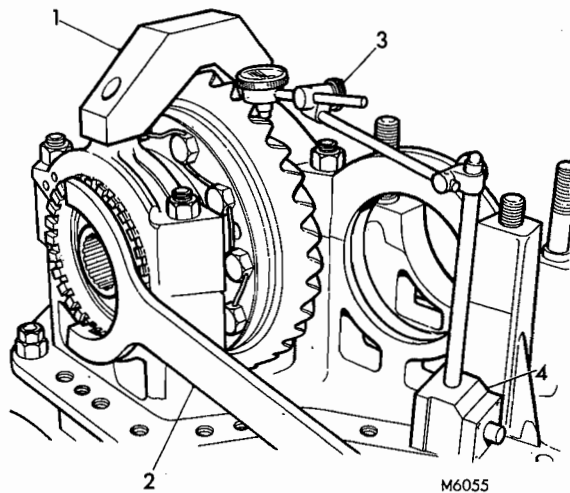

FIG. 6 CHECKING BACKLASH
10. Mount a dial gauge with magnetic base as shown in Fig. 6, and check the backlash against the figure given in Data or as etched on bevel gear. Adjust backlash as necessary by adding or subtracting shims (63) and moving ring nut by a corresponding amount, see Fig. 12 for comparison chart table.